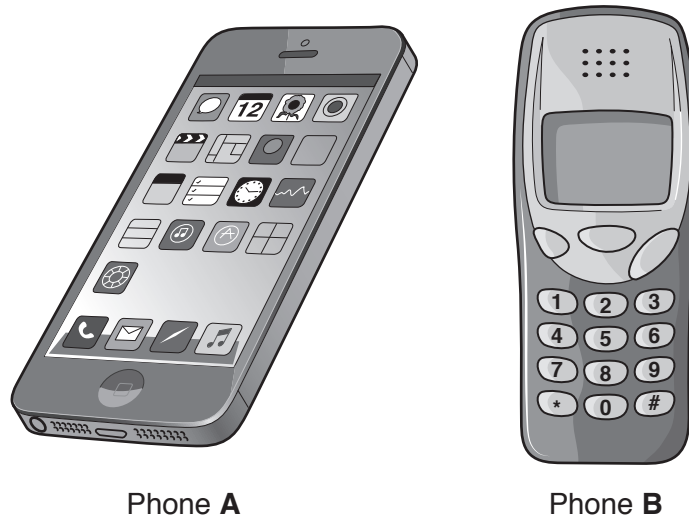

Fig. 2
- 2 (a) Fig. 2 shows two mobile phones. Phone **A** is a modern 'smart' phone. Phone **B** is an earlier model phone.